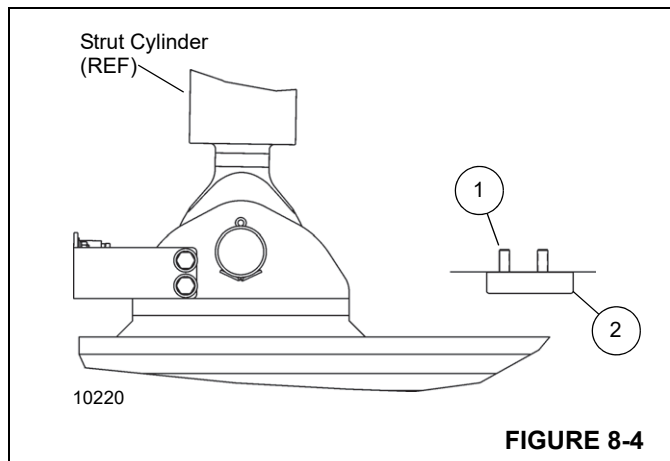

FIGURE 8-4
- c. Remove capscrews (1, Figure 8-4) and bump stop (2) from the frame.
6. Install rig pin (11) through the hole (10) in the relay arm mounting bracket and relay arm (5).
7. Install drag links (3 and 4) on relay arm (5).
8. With the rig pin (11) inserted, verify the left rear wheels are aligned and in the straight ahead position by using a straight edge long enough to lay across the wheel mounting surfaces of both rear axles. Adjust drag links to fit between the relay arm and axle steer arms.
9. Remove rig pin (11) and tighten tube clamps on drag links (3 and 4). Torque ball joints from 332 N-m to 366 N-m (240 ft-lbs to 270 ft-lbs).
11. Apply Loctite® 243™ or equivalent to threads of capscrews (1, Figure 8-4). Install bump stop (2).